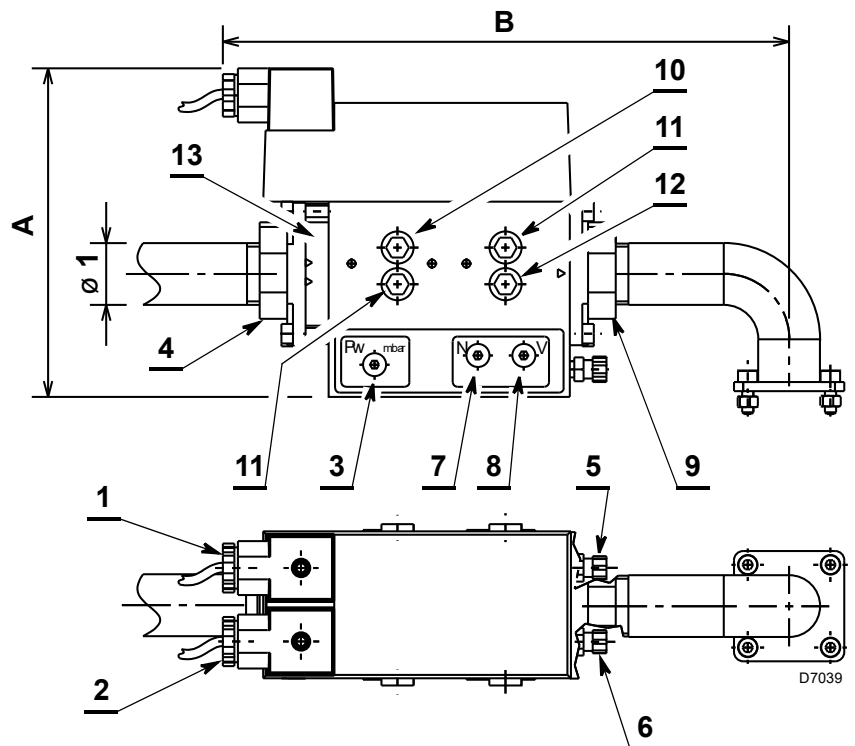

Fig. 1
- Unscrew the protective plug from the flange (4, fig. 1) and connect the gas line.